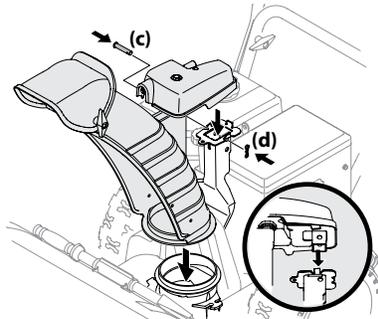

Figure 2-14
2. Place chute assembly onto chute base and secure chute control head to chute support bracket with clevis pin (c) and cotter pin (d) removed in Step 1. See Figure 2-14.